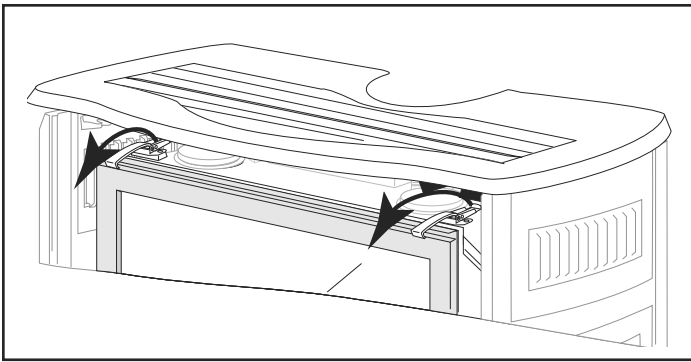
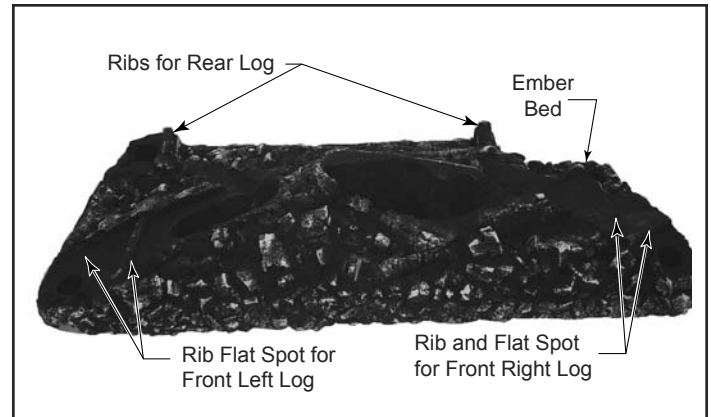
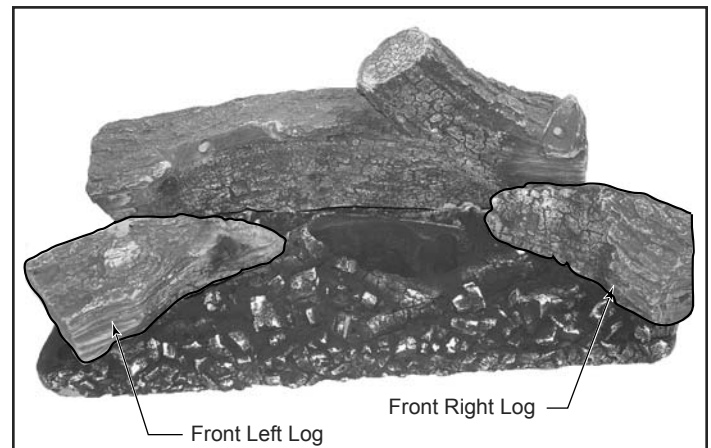

Figure 3.26 - Release the latches to remove the glass frame.
Figure 3.28 - Ribs for Logs
Figure 3.29 - Front Logs
3. Install the front left and right logs (Figure 3.29) by placing them on the ribs shown in Figure 3.26. Make sure the logs line up with the flat spots on the ember bed intended for location purposes. (Figure 3.28)